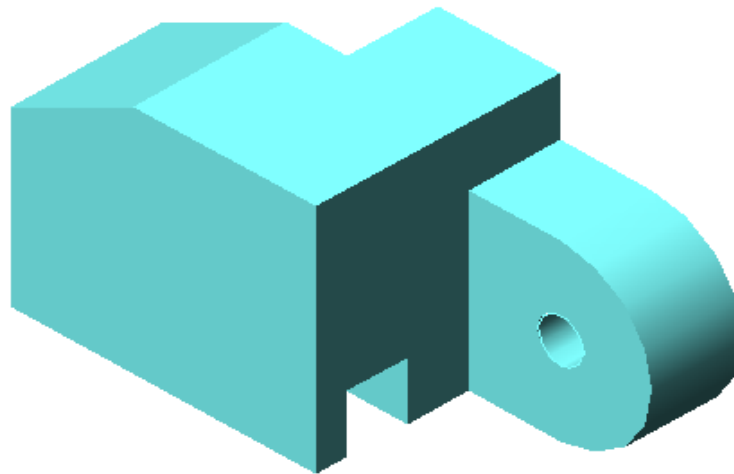

Figure Step 3
Step 3 On layer: Surface 5, create surface meshes on all surfaces including back and bottom. (Figure Step 3)